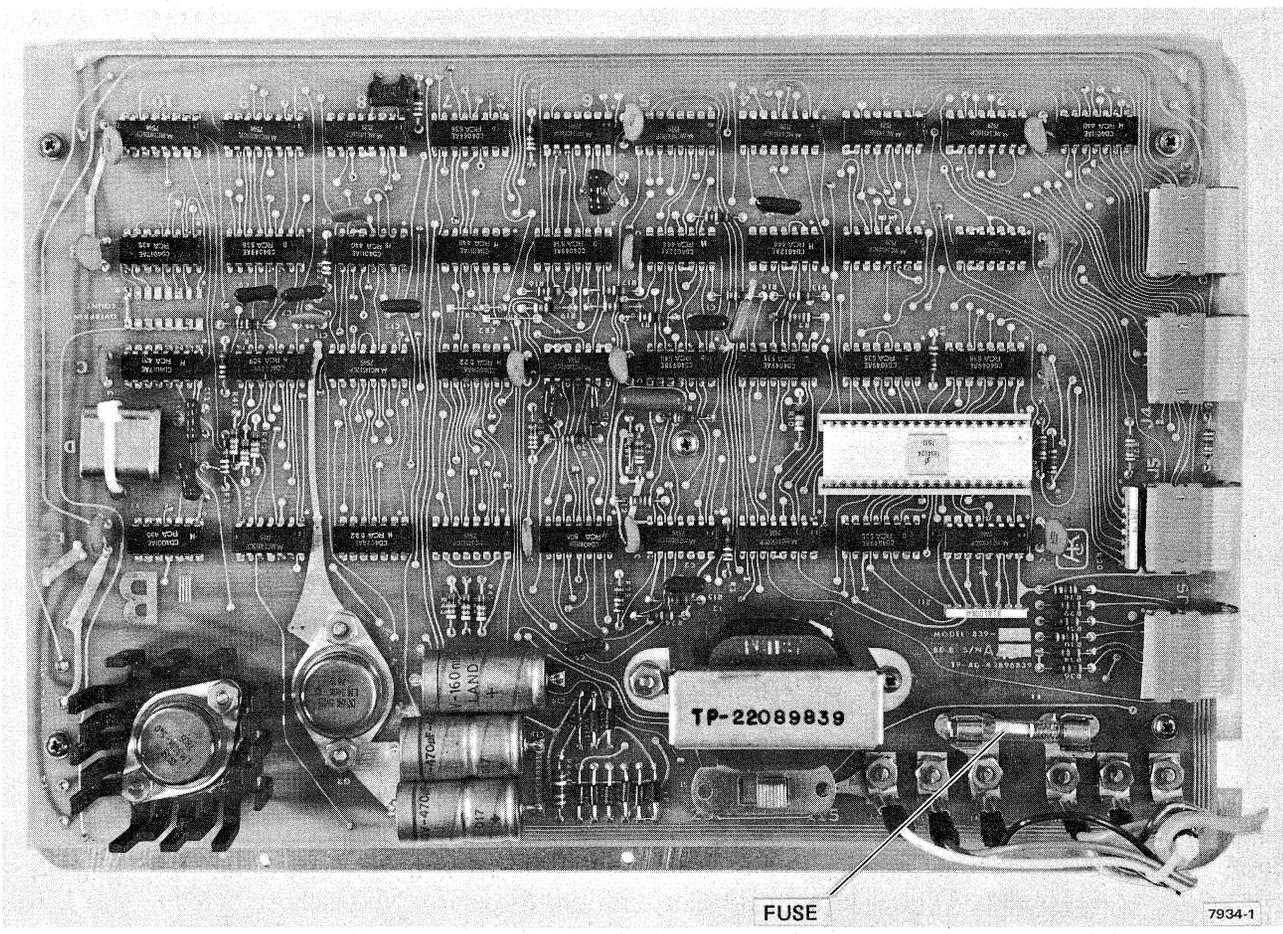

Figure 5-1 Fuse Replacement
3. Replace the line fuse with a new 1/2 amp slow blow fuse. See Figure 5-1 for location of line fuse on logic board.
6. Turn tester on. If the PWR (3) indicator illuminates, run the acceptance test. If the PWR (3) indicator fails to illuminate, return the tester to Digital Equipment Corporation, Maynard.